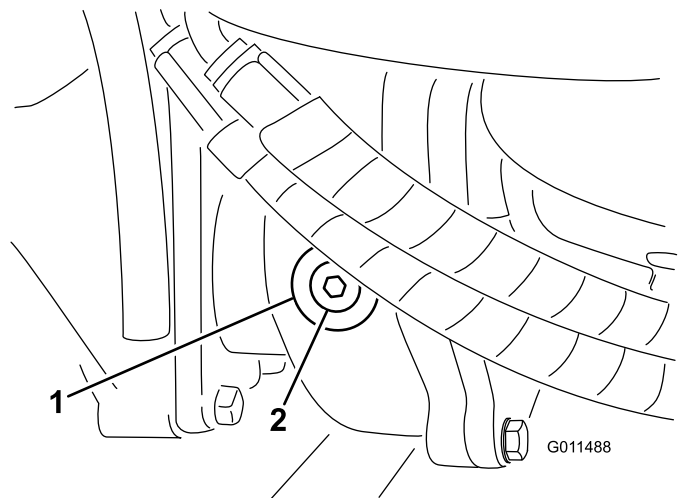

Figure 18
2. Remove the check/fill plug from the left side of the gear box and ensure that lubricant is up to the bottom of the hole (**Figure 18**).